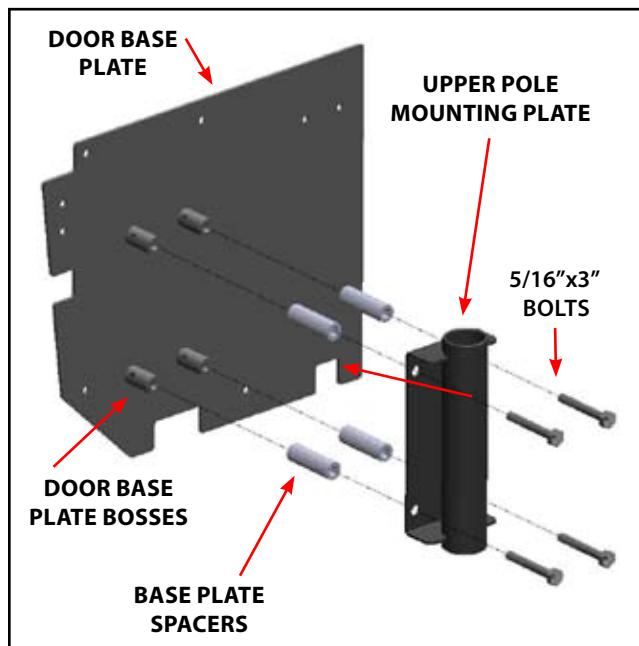
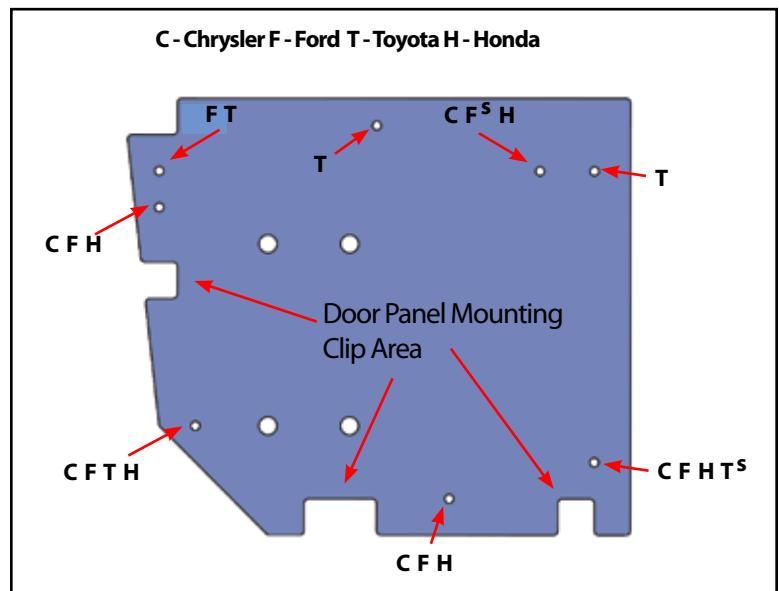

FIGURE 5
FIGURE 6
Once all components are verified as present, the Door Base Plate can be attached directly to the door as shown in **Figure 5** below. This universal plate will be mounted to the OEM driver's door with no less than (5) bolts and locknuts for the vehicles shown. The four bosses protruding out from the door plate will go through the door panel to accept the Quick Adjust Upper Pole. **Figure 6** shows the Door Base Plate and references possible mounting holes for individual vehicle manufacturers.